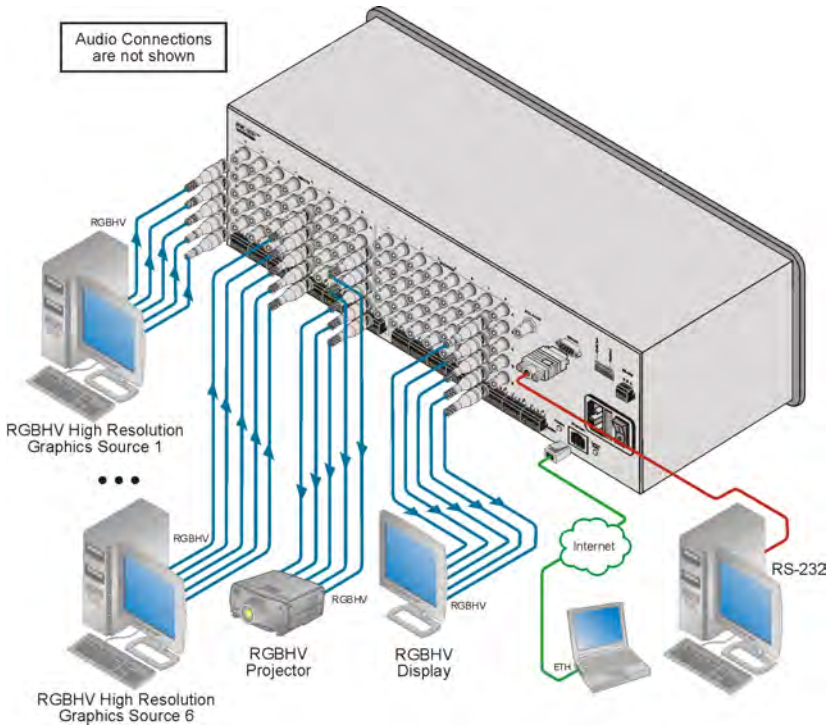

Figure 3: Connecting the VP-885
To connect1 the **VP-885** to external devices as illustrated in the example2 in Figure 3:
6. Connect the power cord3 (not shown in Figure 3).